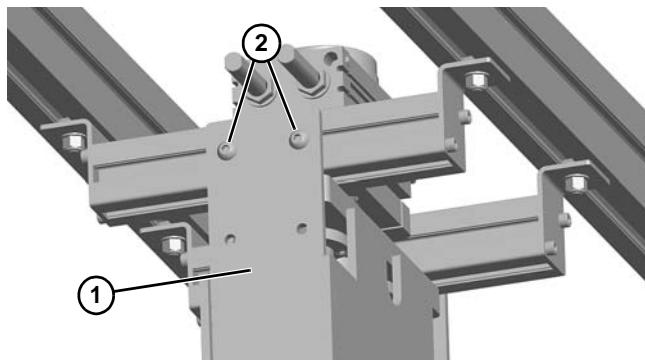

Figure 122
3. If installed, remove button head screws (**Figure 122, item 1**) and optional guard kit (**Figure 122, item 2**).